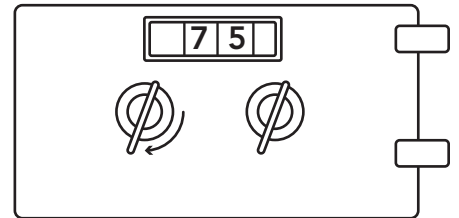

FIG. 7
8. Insert the change key in change pivot in the rear of the lock and turn COUNTER CLOCKWISE until it stops. *Tool will turn approximately 1/16 of a turn. (Figure 7)